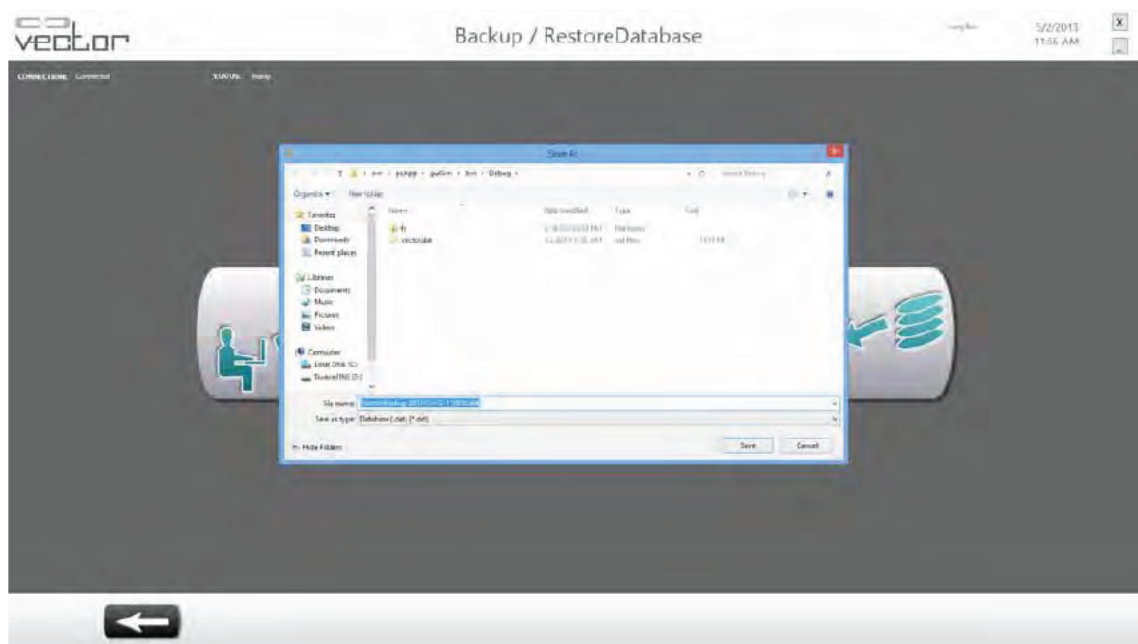

Figure 8-7: Backup Database "Save As" Window
3. Press the Backup to Disc button to backup the system database onto a disc or external hard drive. See Figure 8-7.
4. A window will appear asking where to save the file as a ".dat" file. See Figure 8-7.